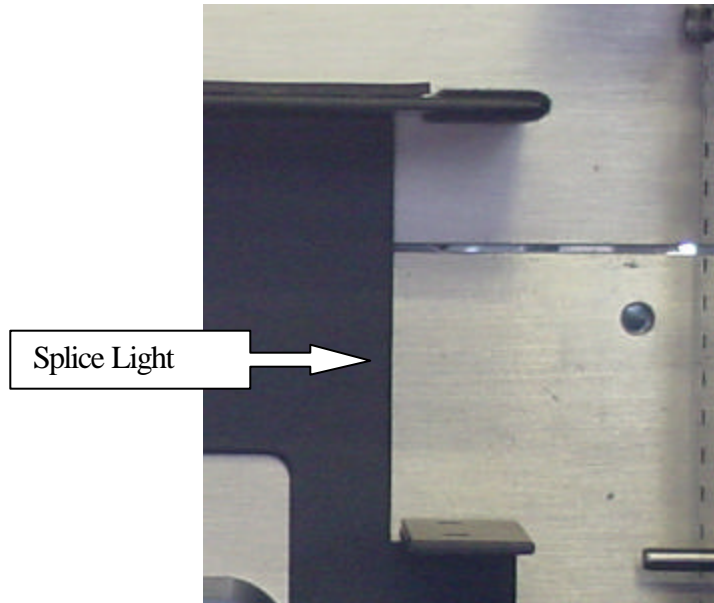

Figure C2
- 4) Optionally, if changing from 35mm to APS, the splice light can be removed. To remove, remove the two button head screws in the bottom of the DX Camera Mount. See Figure C2.
- 1) If changing from APS to 35mm, the splice light must be installed if it is not already installed. Get the splice light and mounting screws from the Kit box, and install it on the lower flange of the DX Camera Mount. See Figure C2.